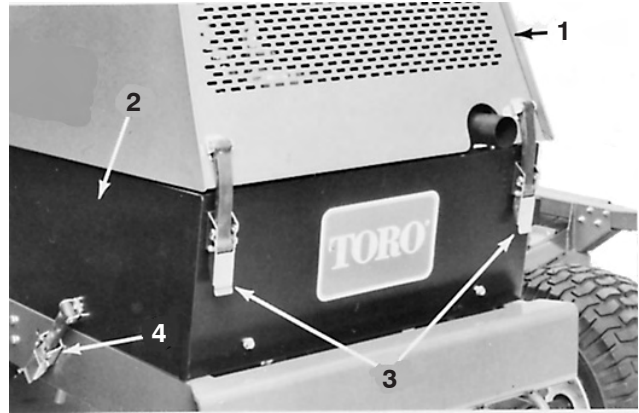

Figure 28
1. Unlatch, raise and prop engine hood open and remove left side panel (Fig. 28).